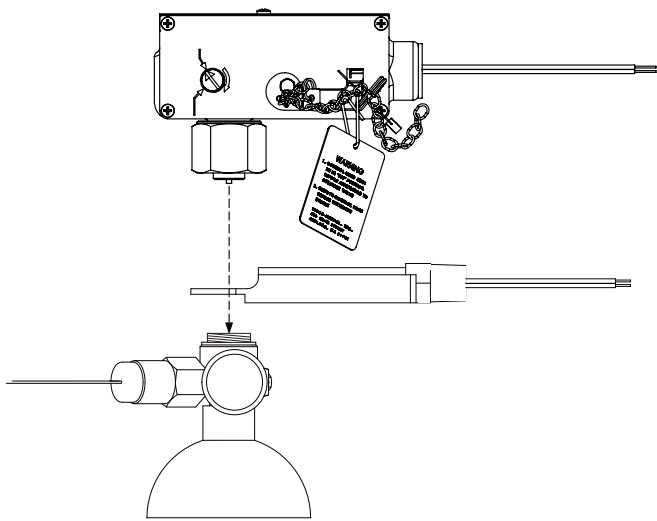
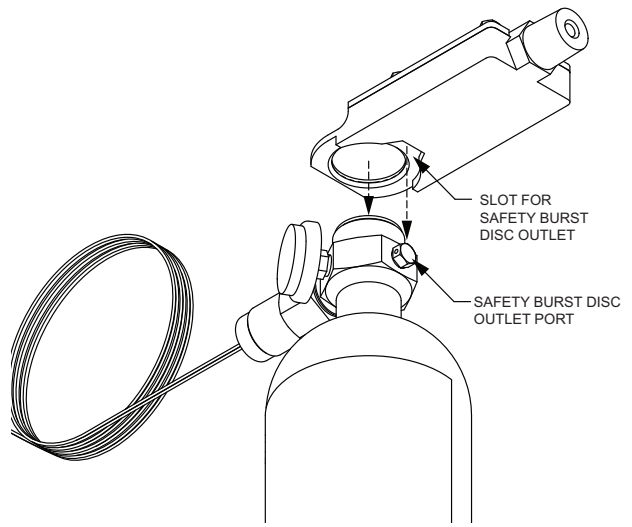

Figure 10. Installation Side View
Figure 11. Installation Isometric View
3. Install the CHM over the cylinder valve actuation port as shown in Figure 10 and Figure 11.
**Important: Make sure the safety burst disc outlet port lines up and sits in the slot on the underside of the CHM (see Figure 11). The body of the CHM should be opposite the supervisory pressure switch.**